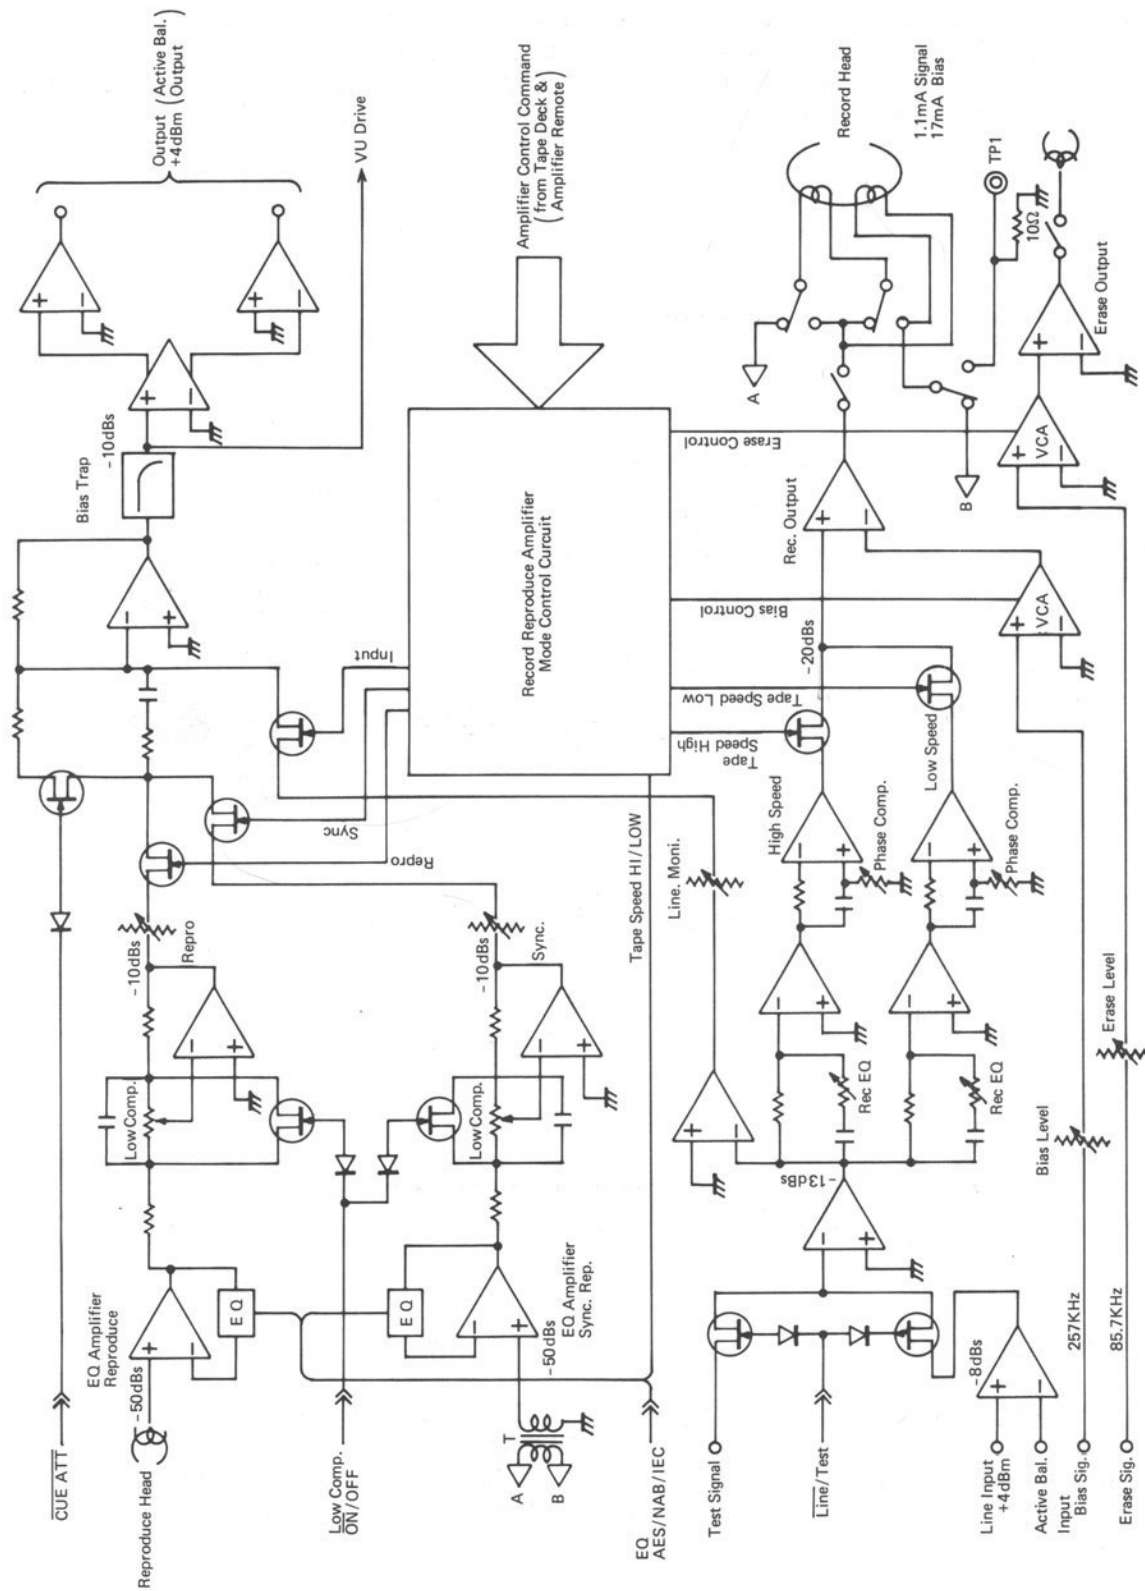

Figure 4-6. MTR-90 block diagram showing audio levels, 24-channel model.
Figure 4-6 on the next page is a block diagram of the audio signal path for one channel of the 24-track MTR-90 (8 and 16 channel versions may differ slightly). On it are indicated the nominal signal levels in dBm (ref. 0 dB = 0.775 V RMS), given a 1 kHz signal with NAB EQ at 30 ips.